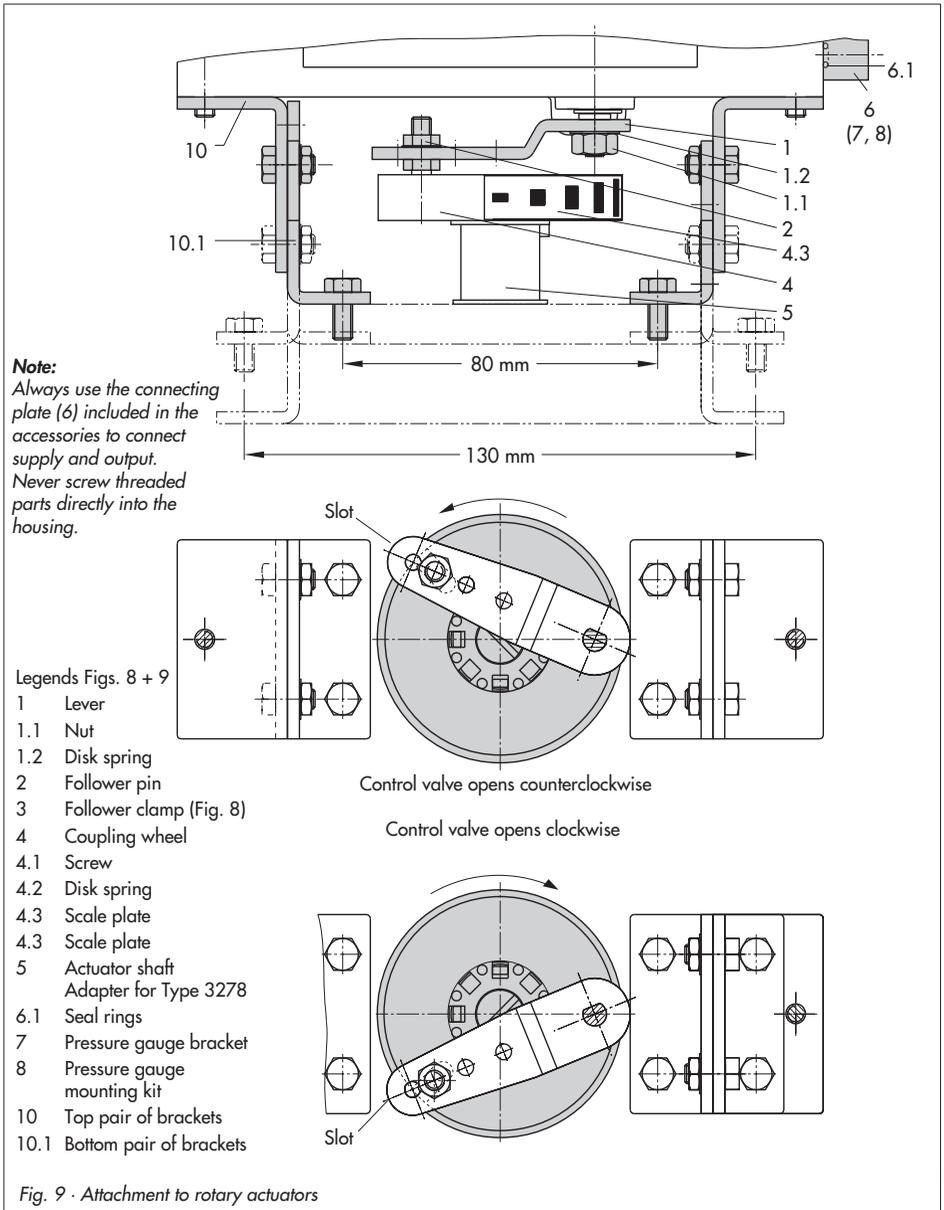

Fig. 9 · Attachment to rotary actuators
1. Place follower clamp (3) on the slotted actuator shaft or the adapter (5).
2. Place coupling wheel (4) with flat side facing the actuator on the follower clamp (3). Refer to Fig. 9 to align the slot so that it matches the direction of rotation when the valve is in its closed position.
4. Screw the bottom pair of brackets (10.1) with the bends pointing either to the inside or to the outside (depending on the actuator size) to the actuator case. Position top pair of brackets (10) and screw tight.
5. Mount connecting plate (6) or pressure gauge bracket (7) with pressure gauges to the positioner, making sure both
6. Unscrew the standard follower pin (2) from the positioner's lever **M** (1). Use the metal follower pin (Ø5) included in the mounting kit and screw tight into the bore for pin position **90°**.
7. Place positioner on the top pair of brackets (10) and screw tight. Considering the actuator's direction of rotation, adjust lever (1) so that it engages in the slot of the coupling wheel (4) with its follower pin (see Fig. 9). It must be guaranteed that the lever (1) is parallel to the long side of the positioner when the actuator is at half its angle of rotation.